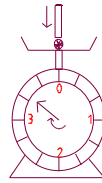

Fig. 38. Kitchen scale for gauging grain strength.
- A. **Grain strength** can be gauged by placing one grain of fertiliser on an ordinary kitchen scale, and then pressing with increasing load on the grain, e.g. with the flat end of a pencil, while watching the scale's display indicator. The weight that is displayed when the grain is crushed is an expression of the grain strength of the fertiliser. Make sure you test several grains (both large and small) and then calculate the average grain strength (fig. 38).